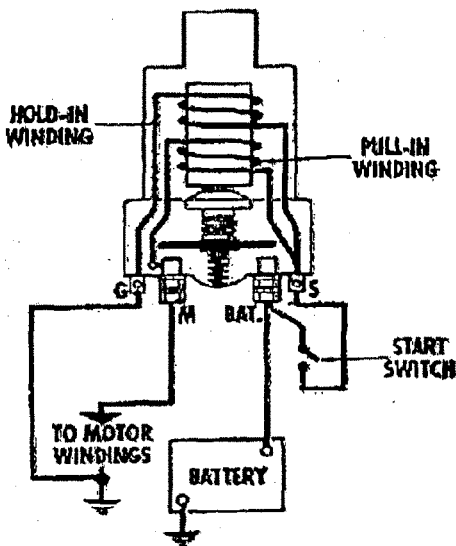
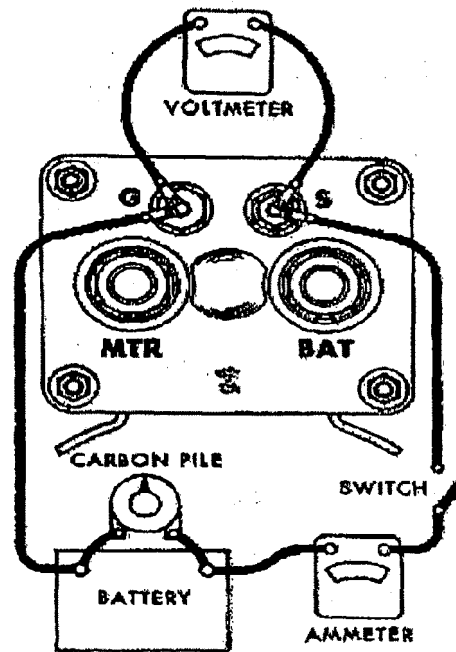
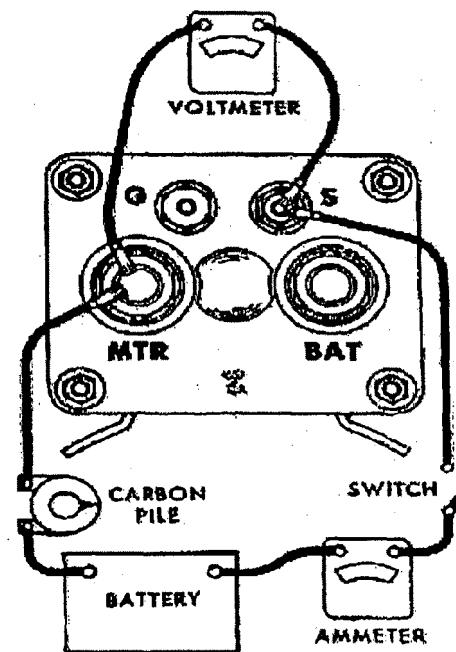

Figure 8—Internal solenoid circuit. ("G" and "S" terminals moved to clarify illustration.)
Figure 9—Checking solenoid hold-in winding
Figure 10—Checking solenoid pull-in winding
A basic solenoid circuit is shown in Figure 8. Solenoids may differ in appearance but can be checked electrically by connecting a battery of the specified voltage, a switch, and an ammeter to the two solenoid windings. With all leads disconnected from the solenoid, make test connections as shown to the solenoid switch terminal and to the second switch terminal, (G), to check the hold-in winding (Fig. 9). Use the carbon pile to decrease the battery voltage to the value specified in Service Bulletin 1S-188 and compare the ammeter reading with specifications. A high reading indicates a shorted hold-in winding, and a low reading excessive resistance. To check the pull-in winding connect from the solenoid switch terminal (S) to the solenoid motor (M or MTR) terminal (Fig. 10).
To check for grounds, mo e battery lead from "G" (Fig. 9) and from "MTR" (Fig. 10) to solenoid case, (not shown). Ammeter should read zero. If not, winding is grounded.